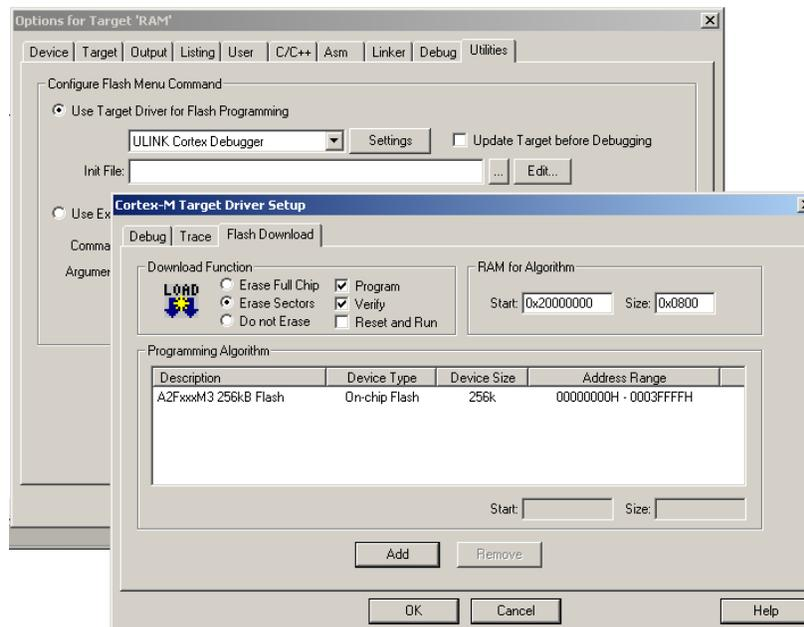

Figure 32: Flash Programming Configuration
21. In the Initialization File: box, enter ram.ini as shown in Figure 32. You can use the Browse icon.